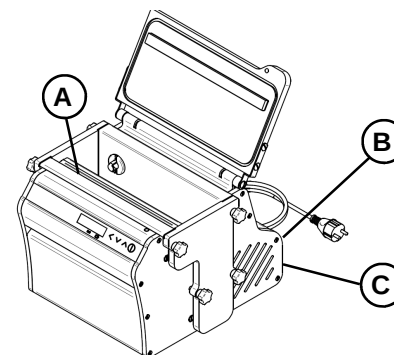

Fig. 1.8.2
1.8.1 - Warning and danger signs (Fig. 1.8.2)